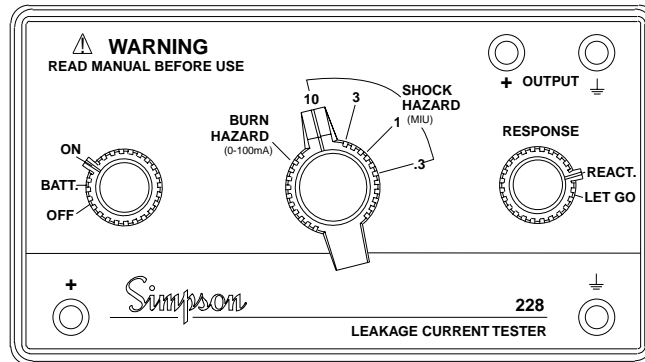

Figure 7
1. Turn Function Select Switch to 10MIU SHOCK HAZARD (see Figure 7 below).